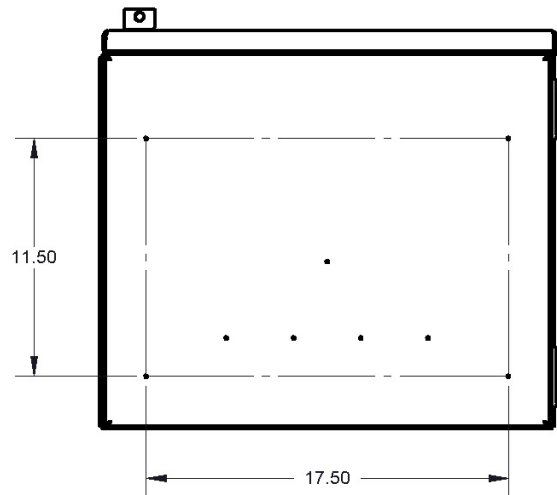

Figure 8: Enclosure/plinth mounting hole locations
- On the bottom of the enclosure, locate the four outer mounting hole locations denoted by centerpunch marks as shown in Figure 8. Drill out 7.14 mm (0.281 in.) diameter holes in each location for the 1/4 inch bolts installed in the next step.